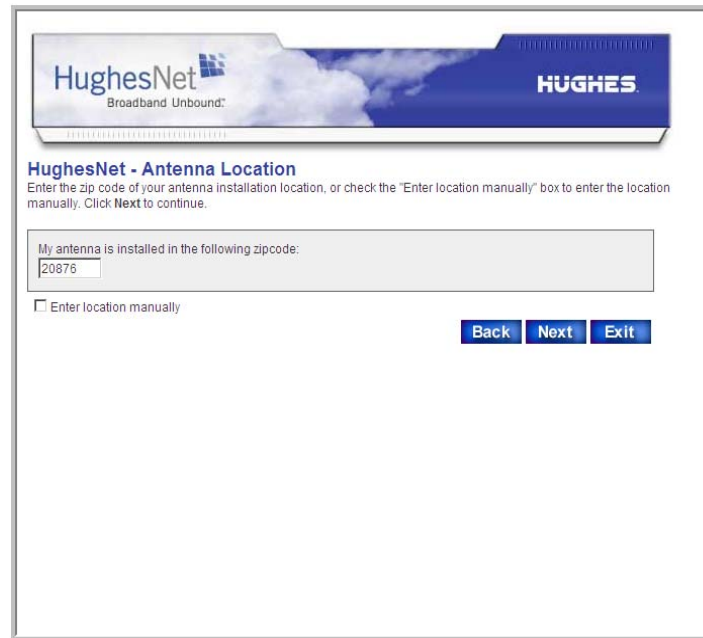

Figure 21: Antenna Location screen
1. From the Broadband Satellite Setup screen, click **Registration - Installer**. The Antenna Location screen appears as shown in Figure 21.